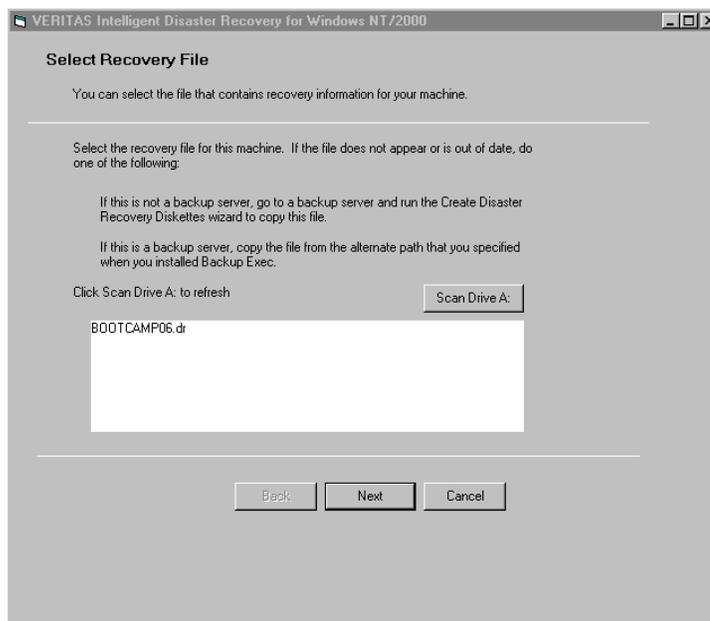

Figure 13: Select Recovery File screen
3. The next screen to be displayed in the disaster recovery process is the Select Recovery File shown in Figure 13. The user selects the file that contains recovery information for the failed server. Click Next to continue.